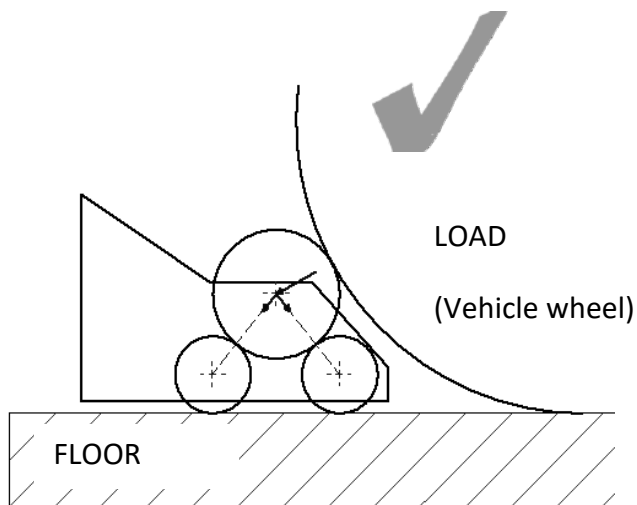

Fig. 1
- ❗ Figure 1 shows how the weight of the roll/load should be unloaded on the rollers.